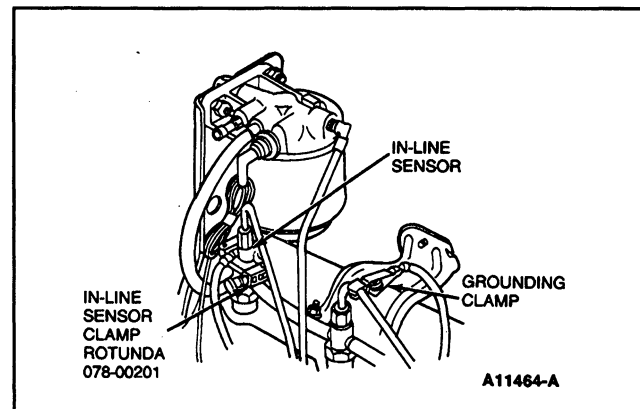

Figure 14: Luminosity Probe—Dynamic Timing
3. Attach clamp from Timing Meter Adapter Rotunda 078-00201 or equivalent to the line pressure sensor on No. 1 injector nozzle (F-Series) and connect to timing meter (Figure 14).